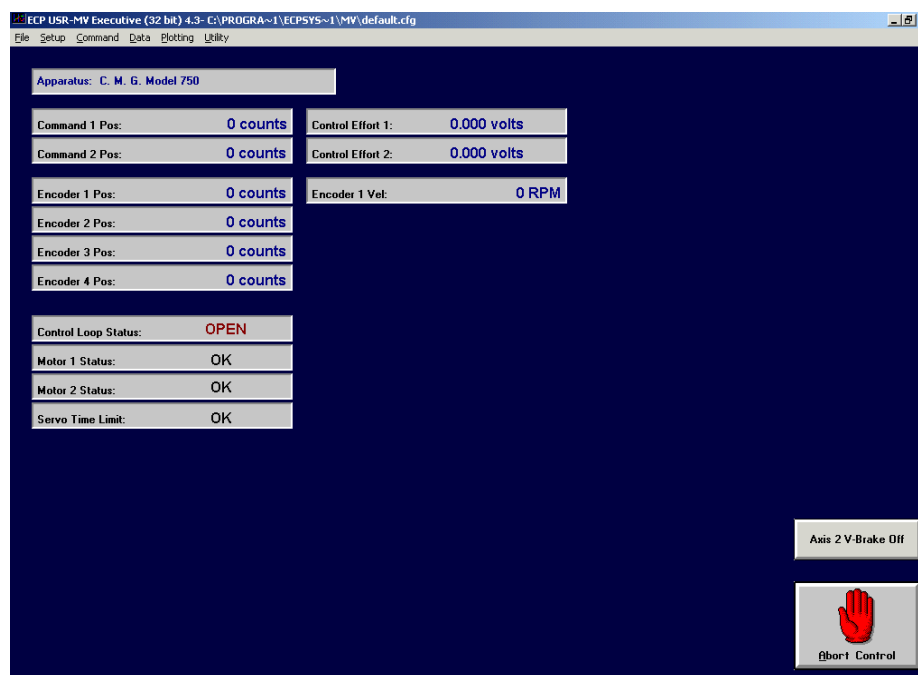
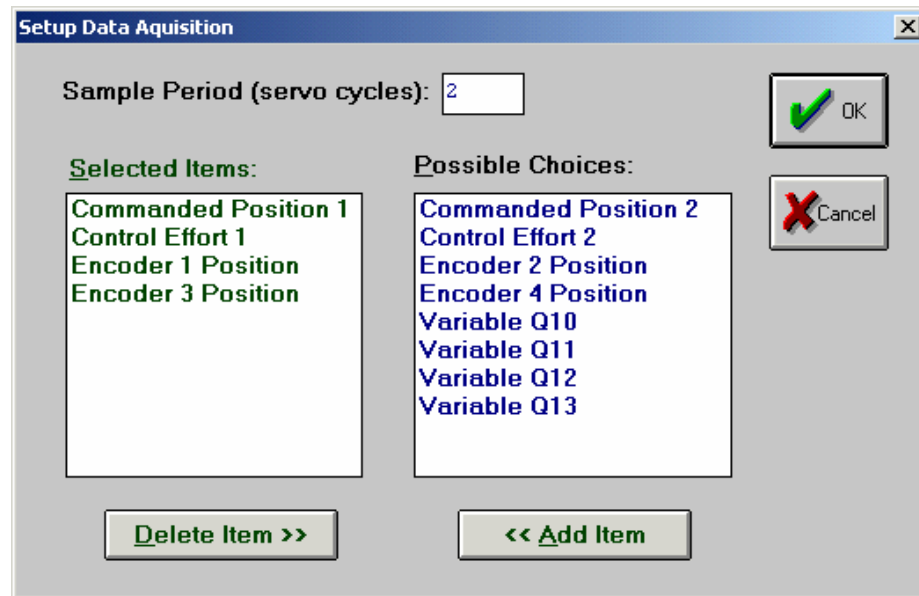
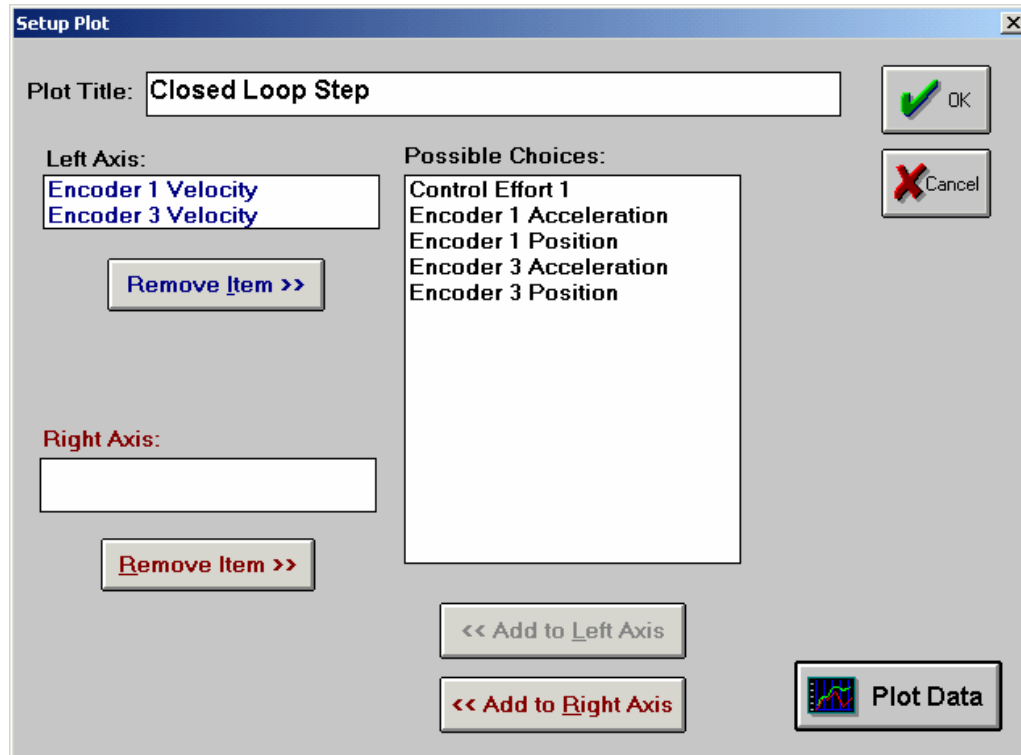

Figure 1: ECP main window
Figure 5: Setup Data Acquisition Window
Figure 11: Setup Plot window
Log in with your username and password and start the ECP software via the ECP icon on the desktop. Once ECP starts up, you will see a window similar to Figure 1.
1. First turn off any closed-loop control algorithm by clicking the large **Abort Control** button in the ECP Main Window (see Figure 1).
1. Select **Data - Setup Data Acquisition** from the main menu bar (See Figure 1) to specify which signals to measure during your experiment. A window similar to Figure 5 should appear.
1. Select **Utility - Zero Position** from the main menu (see Figure 1) to reset all encoder values to 0. This gives nice plots that will start at 0. You might have to do this several times in case of closed-loop experiments.
- a. In the **1st week of the 175a lab** you plan to control axis 3 via Servo Motor 1, while axis 4 is locked. In that case the **axis 4 brake should be engaged**. You can also lock axis 2 via the Axis 2 V-brake button in the ECP Main Window (see figure 1). This will implement a local feedback loop around motor 2 to keep axis 2 “virtually locked”.
1. Select **Plotting - Setup Plot** from the main menu (see Figure 1) to plot and examine the data from your experiment and a window similar to Figure 11 will appear.
3. For the **open-loop experiment using Servo Motor 1**, it is best to plot the output (Encoder 1 Position or Encoder 3 Position) on the left axis and the input (Control Effort 1) on the right axis, as selected in Figure 11. For the **open-loop experiment using Servo Motor 2**, it is best to plot the output (Encoder 2 Position or Encoder 4 Position) on the left axis and the input (Control Effort 2) on the right axis.
1. Select **Data - Export Raw Data** from the main menu (See Figure 1) to save your data before you start a new experiment.